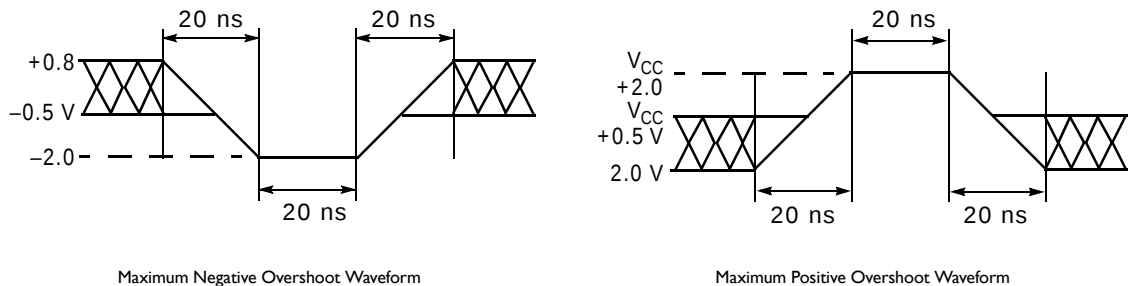

Figure 8. Maximum Overshoot Waveforms
1. Minimum DC voltage on input or I/O pins is −0.5 V. During voltage transitions, input or I/O pins may overshoot V_{SS} to −2.0 V for periods of up to 20 ns. Maximum DC voltage on input or I/O pins is $V_{CC} + 0.5$ V. During voltage transitions, input or I/O pins may overshoot to $V_{CC} + 2.0$ V for periods up to 20 ns. See Figure 8.
2. Minimum DC input voltage on pins RESET#, and WP#/ACC is −0.5 V. During voltage transitions, WP#/ACC, and RESET# may overshoot V_{SS} to −2.0 V for periods of up to 20 ns. See Figure 8. Maximum DC input voltage on pin RESET# is +12.5 V which may overshoot to +14.0 V for periods up to 20 ns. Maximum DC input voltage on WP#/ACC is +9.5 V which may overshoot to +12.0 V for periods up to 20 ns.